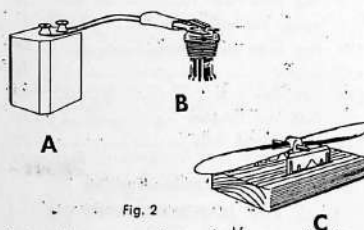

Fig. 2
- Procure a 1 $\frac{1}{2}$  volt dry cell battery, #6 or equivalent, and connect it with 2 flexible insulated wires to a glow plug clip as shown in the diagram A and B-Fig. 2. Do not use a stronger battery. If you do, the plug will burn out. The connections should be soldered to insure good contact and taped to prevent bare ends of wire from getting together and "shorting" the battery. Be sure the battery is a good one. Your dealer sells batteries and glow plug clips. The Thimble-Drome plastic mounted glow plug clip with wires already attached is recommended.
- Balance and trim propeller. This is very essential for good performance. Sand off any bead of plastic along edges of blades. Fit a drill or shaft through the hole and rest the shaft on razor blades set in wooden blocks as shown in C-Fig. 2. Sand the heavy blade until the propeller will balance in a horizontal position. Care must be exercised to do the sanding without spoiling the airfoil characteristics.
5. Connect the battery by snapping the clip, on the glow plug, B-Fig. 2.